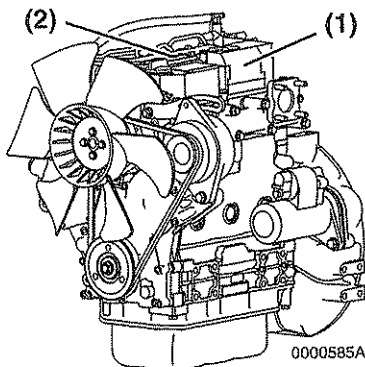

Figure 4
Figure 4 shows the location of regulatory and safety labels on Yanmar TNV series indirect injection model engines.
The typical location of the emission control information label is shown (Figure 4, (1)).
Typical location of the engine nameplate is shown (Figure 4, (2)).